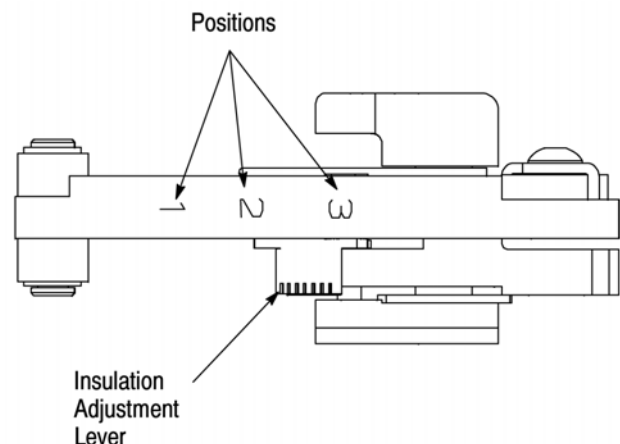

Figure 5
1. Adjust the insulation levers to the No. 3 position. See Figure 5.
The insulation crimping section of the crimping head has three positions: 1-Tight; 2-Medium; and 3-Loose. See Figure 5.
1. Perform insulation crimp adjustment by placing adjustment levers in position 3 (loose), as shown in Figure 5.